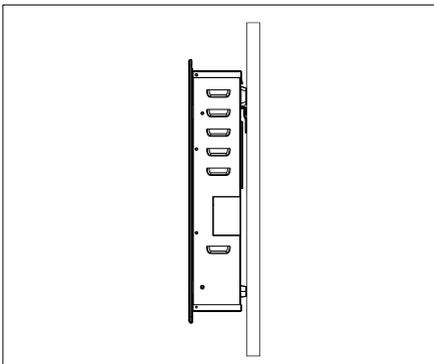
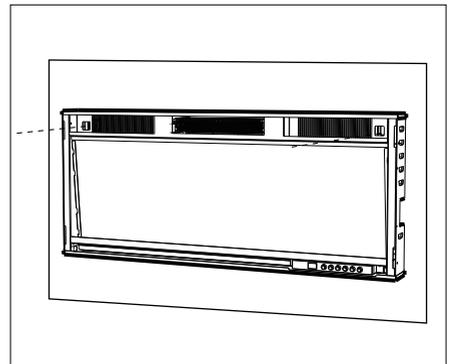
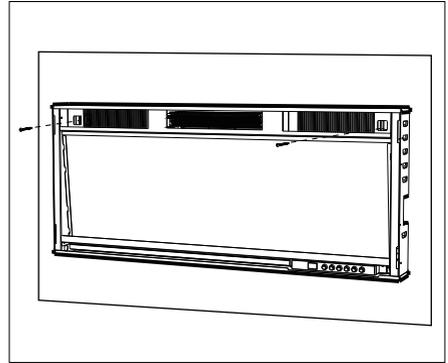

fig.8
fig.9
fig.11
4. Hang the 2 hooks on the back of the fireplace onto the bracket and mark 2 screw holes at the two corners of the fireplace on the wall. (fig.8, fig.9)
6. Hang the 2 hooks on the back of the fireplace onto the bracket again and tighten 2 screws.(fig.8, fig.11)
7. Hang the 2 hooks on the back of the fireplace onto the bracket.(fig.8)